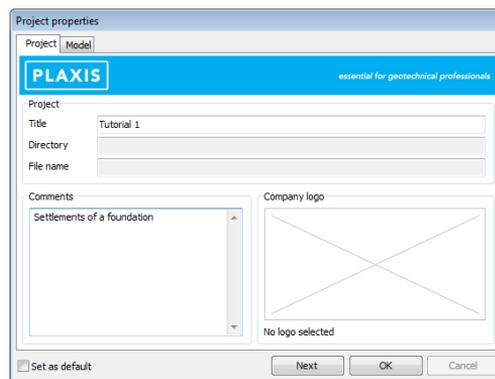

Figure 1.3 Project tabsheet of the Project properties window
- In the *Project* tabsheet, enter "Tutorial 1" as the *Title* of the project and type "Settlements of a foundation" in the *Comments* box (Figure 1.3).